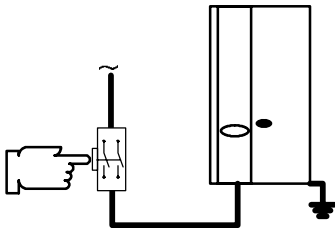

fig. 3.1
- a fused spur isolation switch with a gap of at least 3 mm between the contacts (fig. 3.1) must be installed near to the boiler. Refer to the section 3.6 of this chapter for the electrical connections.